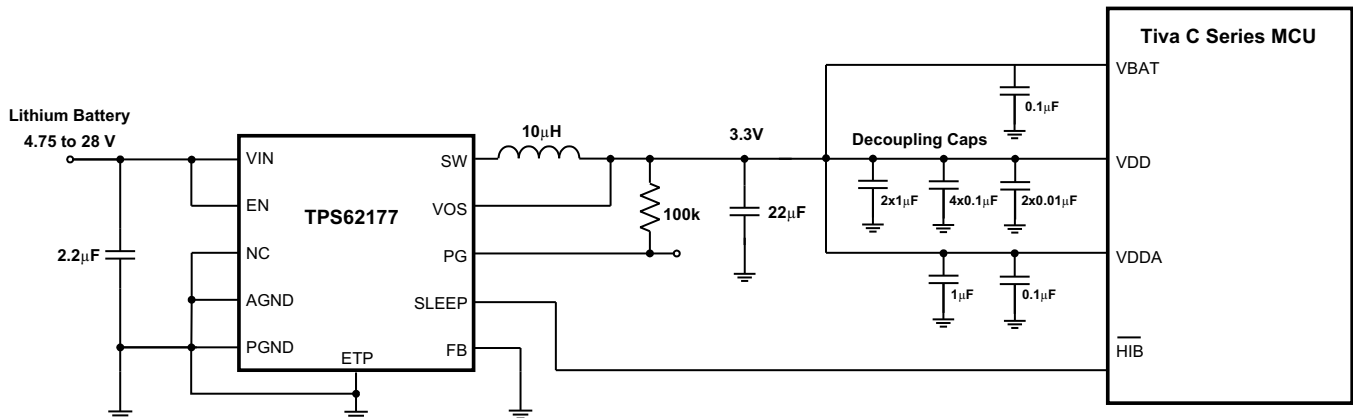

Figure 62. Micro-Controller Power Supply with Sleep Mode
The TPS6215/7 can be used advantageously as the power supply rail for micro-controllers with low current power save modes. Figure 62 shows the connection of TPS62177 to the Tiva C Series TM4C123x ARM Cortex™ - M4 MCUs (TM4C123x MCUs), using its Hibernate Mode signal to control Sleep Mode operation. More information is found in the Application Report SPMA066.
- Changed Micro Controller Power Supply section information and Figure 62 28